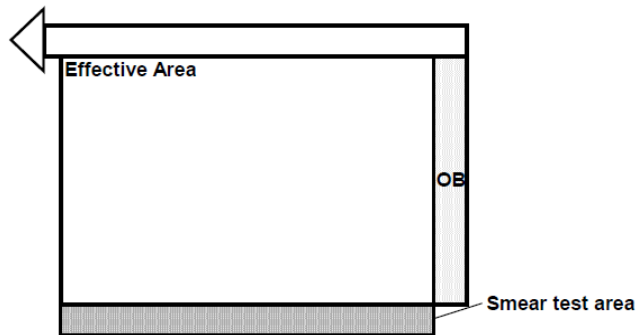

Figure 2. Smear test area.
- 7) See figure 2 below for the Test area.